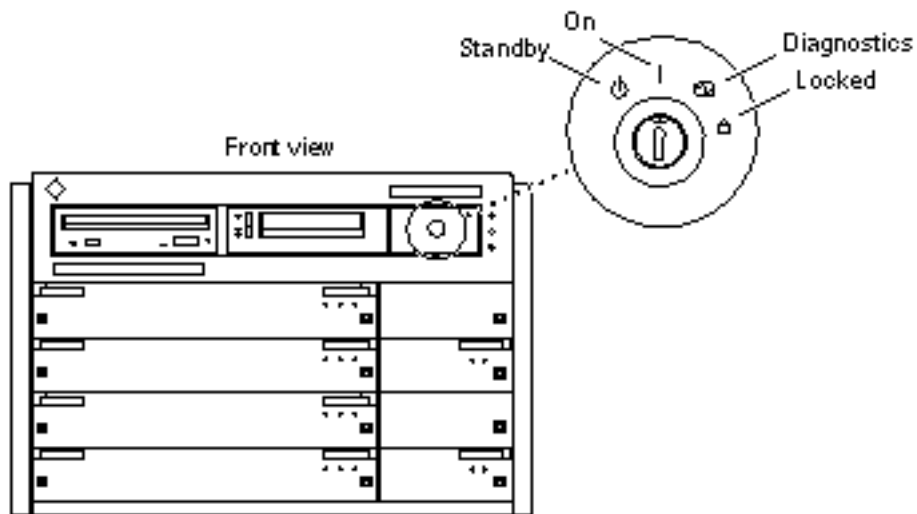

Figure 3-5 Key Switch on the Enterprise 4500
- a. **Turn the system key switch (Figure 3-5) to**